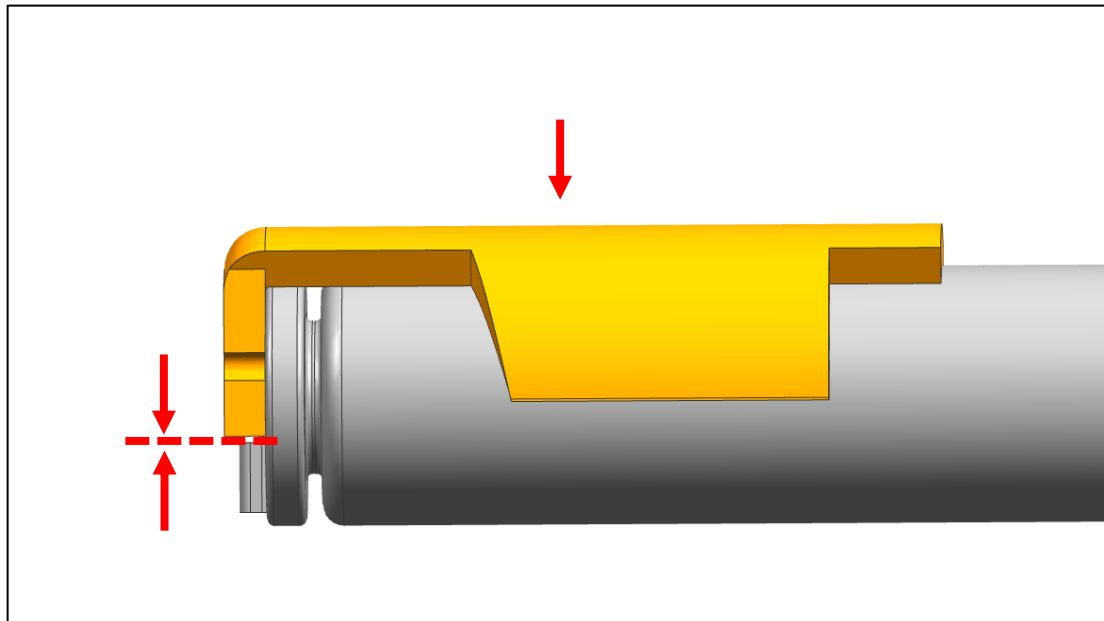

Fig. 43
- a) Glue the inlay onto the battery (Fig. 43).
Attention: The front edge of the inlay must be flush with the push-on contact of the battery (Fig. 43).